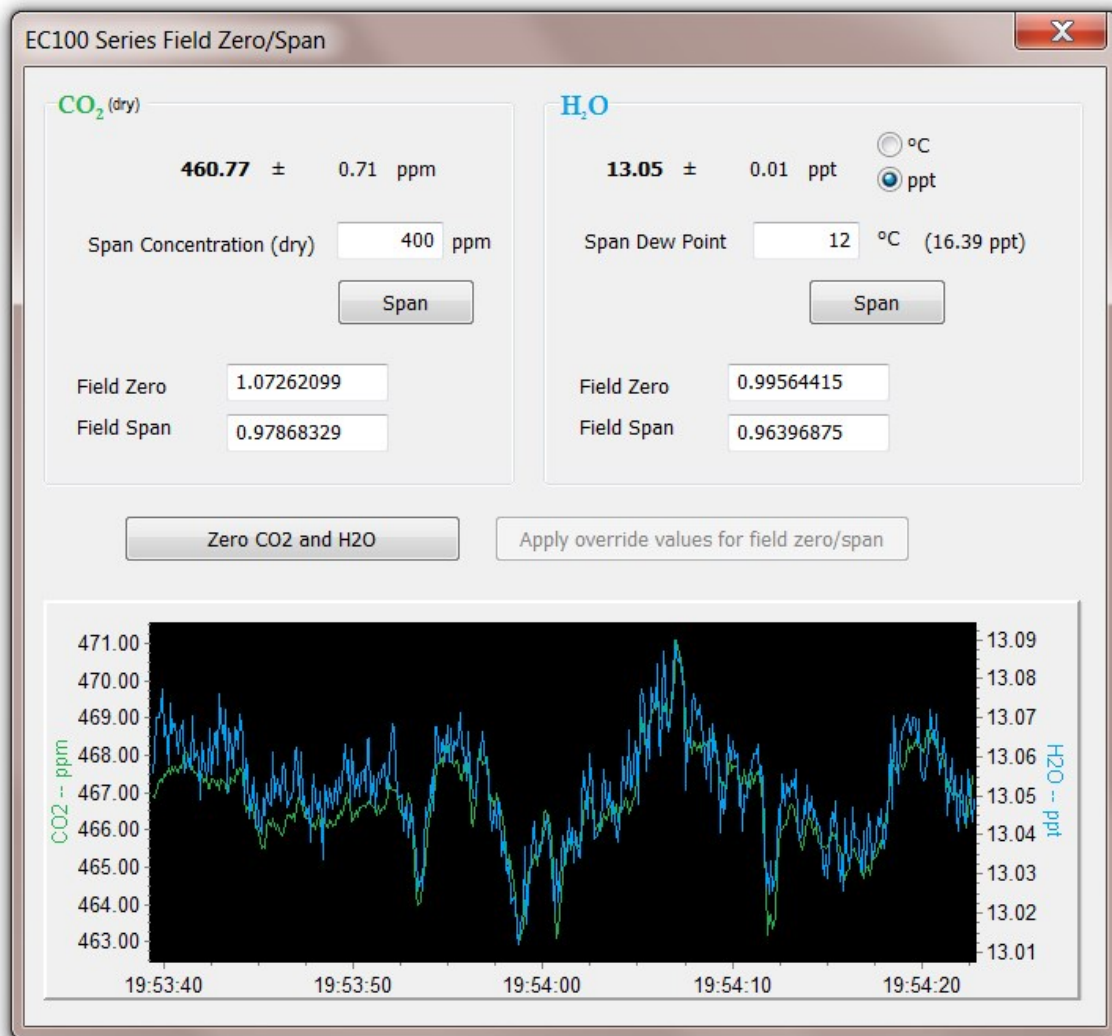

FIGURE 9-5. **ECMon** zero-and-span window
7. Launch **ECMon**, select the appropriate USB port, and click **Connect**. The main screen should now be reporting real-time CO₂ and H₂O concentrations. Click **Zero/Span**. A graph will appear in the lower half of the zero-and-span window showing measured CO₂ and H₂O concentrations (see FIGURE 9-5 (p. 40)).